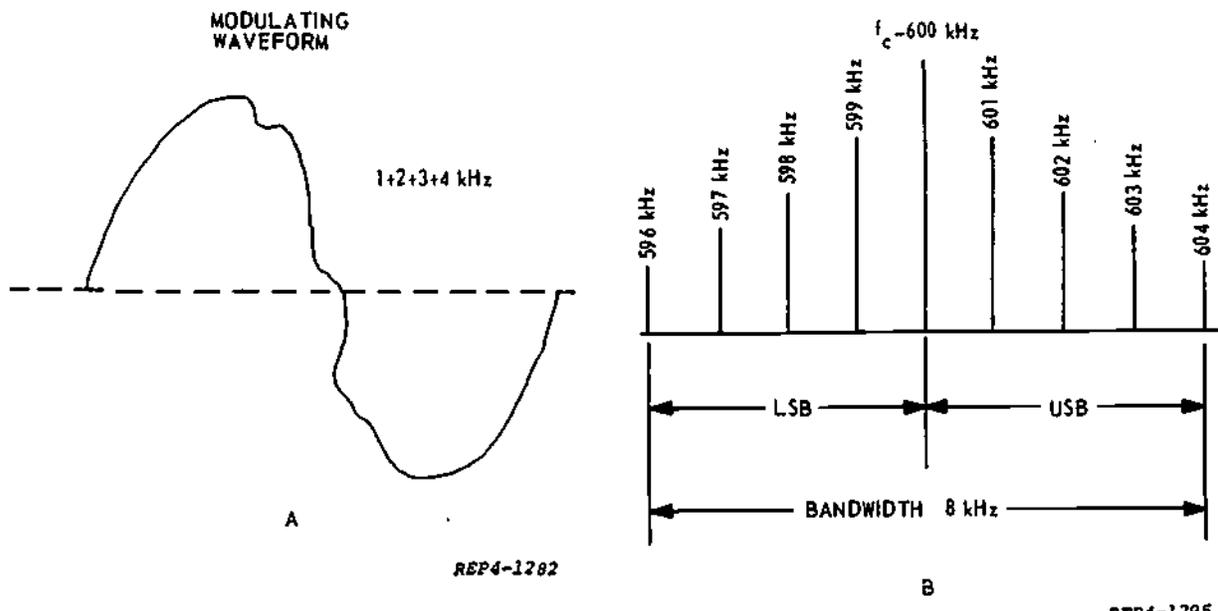

Figure 2-8. Development of Sidebands
2-28. The bandwidth (BW) of an AM signal refers to the space the transmitted signal will occupy in the frequency spectrum. Recall the transmitted frequencies in AM are the carrier signal, and the upper and lower sidebands. Look at figure 2-8, we see the USB and LSB are each 4 kHz wide. Therefore, the BW of the transmitted signal is 8 kHz.